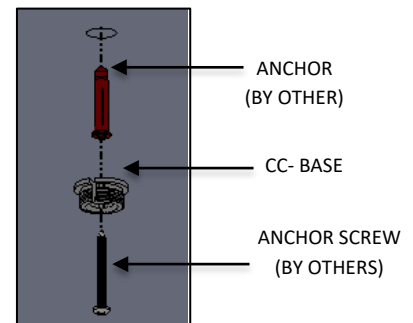

FIG. 15 - HARD CEILING INSTALLATION
2. Install the CC-BASE to the ANCHOR (by others) previously installed at the non-powered mounting location and secure with the ANCHOR SCREW (by others) as shown in FIG. 15.